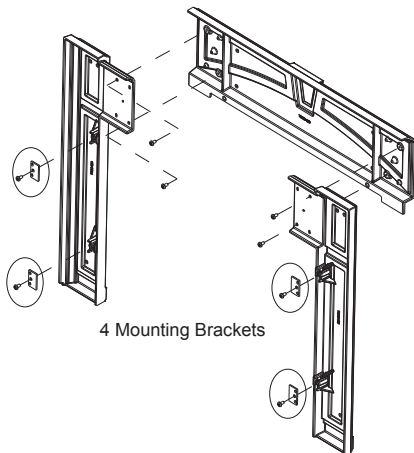

Figure 22.1
**Included in Surround Kit:** (2) side pieces, left and right; (1) top piece; (1) fastener package.
4. Attach the mounting brackets to the side pieces included with the kit (**Figure 22.1**).